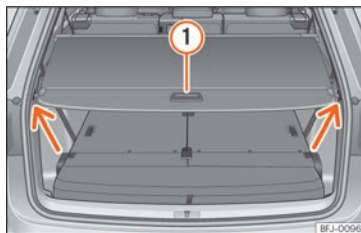

Fig. 123 In the luggage compartment: luggage compartment shelf closed.
- Pull the cover backwards with the handle » **Fig. 123** ① and remove it above the an-